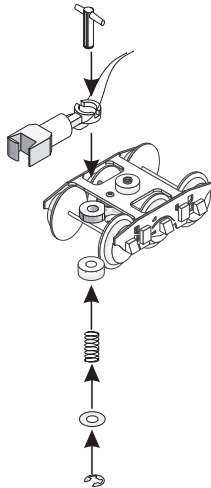
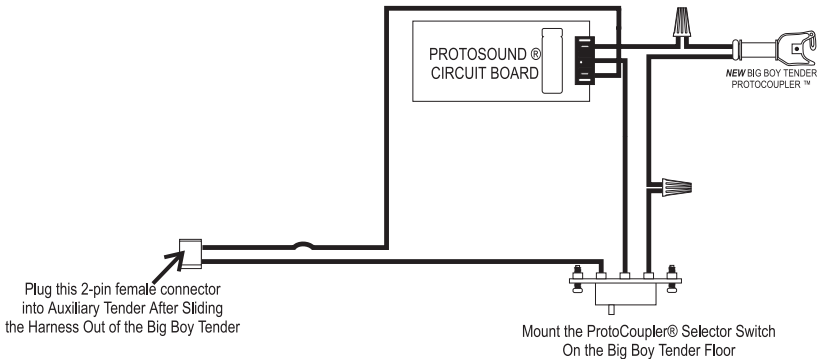

Figure 3: Installing the ProtoCoupler
Figure 6: Wiring up the Auxiliary Tender ProtoCoupler® Harness to the Proto-Sound® Board.
Once the mechanical coupler has been removed, the ProtoCoupler can be installed by sliding the coupler over the T-Bar and replacing the spring and C-Clip as seen if Figure 3. Note that the mechanical coupler armature is no longer needed for the ProtoCoupler. Reattach the trailing truck to the chassis.
4. Install the new ProtoCoupler® found in the kit to the Big Boy trailing truck as seen in Figure 3. Once installed, feed the ProtoCoupler® harness up into the tender and insert the blue plug into the ProtoSound® circuit board as seen in Figure 6.